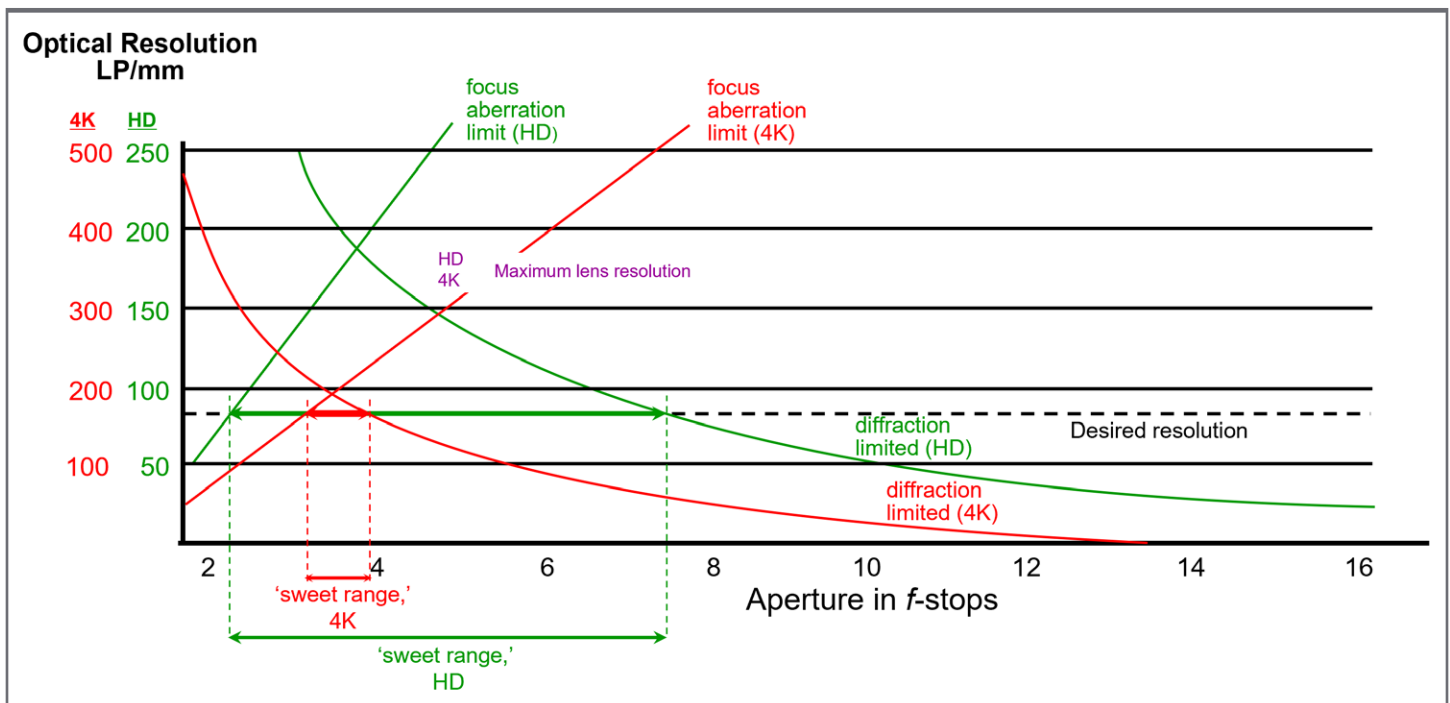

Figure 4 – Sweet range between aberration limits and diffraction limits depending on video format
For high-definition (HD) resolution, the “sweet range” of the lens – the optimal aperture range that balances aberrations and diffraction – is typically around 3-4 f-stops wide (Fig. 4). However, in the case of UHD resolution, the situation becomes much more challenging. The increased pixel density of UHD sensors means that even slight optical imperfections are more noticeable. As a result, the sweet range shrinks dramatically, often to as narrow as half an f-stop. This means that for UHD applications, the iris must be kept at a nearly fixed position, typically around f/3.5, with very little flexibility to adjust up or down without sacrificing image quality.